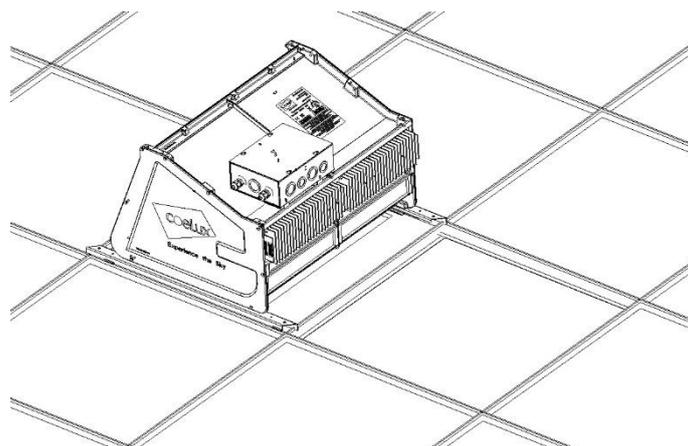

Fig. 12 *Mounting for false ceiling 60x60: step C.*
- D. Pass the main case [1] through the other opening in the false ceiling and place it above the support bars (Figure 12).